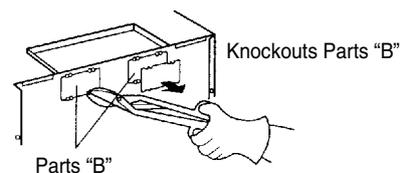

Figure 13
3. Use side cutters or thin snips to cut and remove knockouts "B" from Back plate. Discard knockouts. Be careful not to distort the plate. See Figure 13.